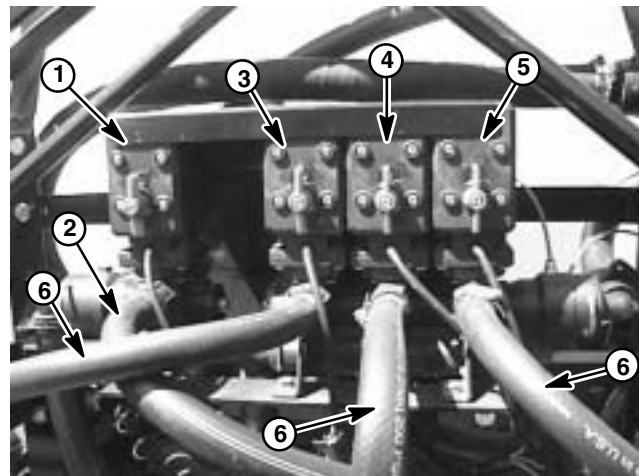
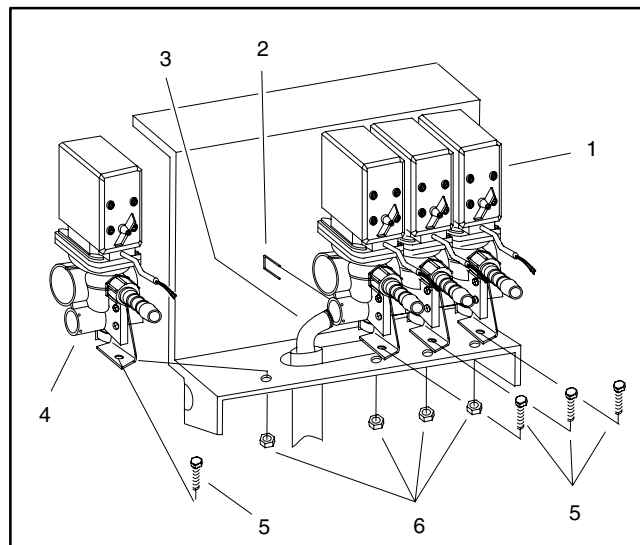

Figure 19
Figure 20
2. Remove two (2) flange head screws and flange nuts that secure support bracket (item 15) to mount bracket (item 26). Position bracket away from spray control assembly.
3. Label hoses for proper installation after repairs are completed (Fig. 19). Loosen hose clamps and disconnect hoses from spray control assembly as needed.
- C. Remove three (3) flange head screws and three (3) locknuts that secure boom valve motors to mount bracket (Fig. 20). Remove boom valve motor assembly from machine.
- B. Remove flange head screw and locknut that secure agitation valve motor to mount bracket (Fig. 20). Remove agitation valve motor from machine.
2. Position removed motor assembly to mount bracket and secure with fasteners removed during disassembly (Fig. 20).
3. Secure support bracket to mount bracket with two (2) flange head screws and flange nuts.
4. Install hoses to correct locations on spray control assembly (Fig. 19). Secure hoses with hose clamps.